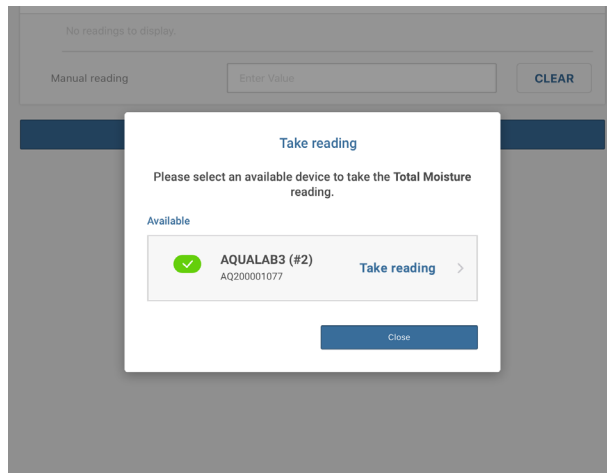

Figure 51 Take reading popup window
7. Select Take reading to the right of the device name shown in the Take reading popup window (Figure 51).